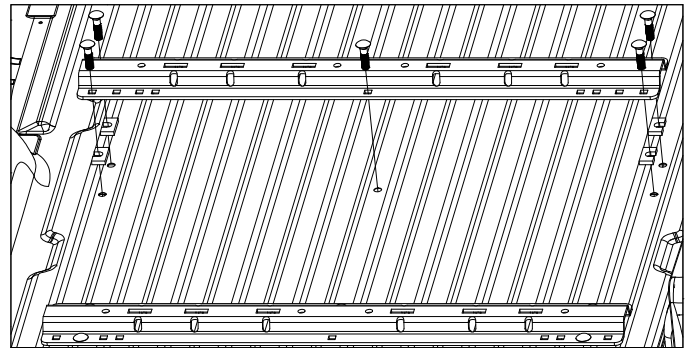

Figure C5: View looking into truck bed from rear of truck.
- 5. Install forward mounting rail.** Refer to the "INSTALL MOUNTING RAILS" section, step 1, and install the forward mounting rail. Notice that the u-shaped spacer placement is different. See figures C5 and C6.